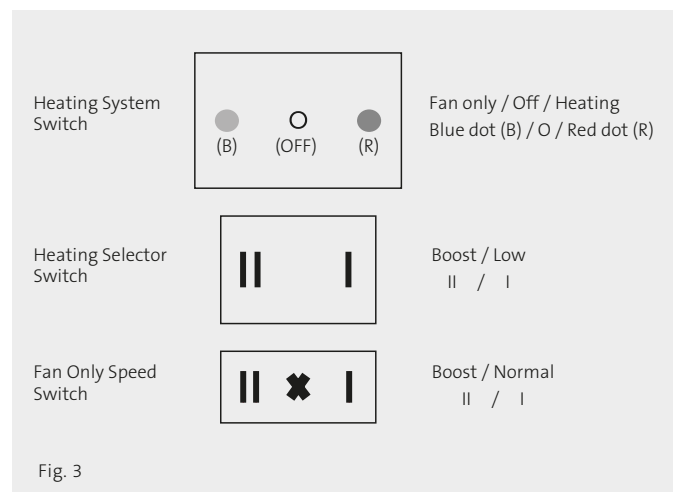

Fig. 3
<p>COMFORT MODE Provides room temperature control for when the room is occupied (see Fig. 3). Heating mode – Electric To enter this mode:</p> <ul style="list-style-type: none"> • Set the fan only/off/heating switch to heating (red dot) • Set the output switch to position I • Select the fan speed switch to position I <p>The unit will now run on low speed. To operate the 500E ECO at 2kW:</p> <ul style="list-style-type: none"> • Set the output switch to position II <p>The unit will now run on high speed.</p>	<p>The display will show the ambient temperature. Press OK, set temperature will begin to blink. Use ◀ or ▶ to adjust the required room temperature. Press OK to confirm. The ambient room temperature will then display.</p> <p>Default setting +21°C Max temp setting +30°C Min temp setting +5.5°C</p> <p>Note: The thermostat has a LED indicator that will change colour depending on the following: ≤21.0°C = Green 21.5°C - 24.0°C = Orange ≥24.5°C = Red</p> <p>NOTE: To see the set temperature simply press ↻.</p>
- Koble OPTIMO 500E ECO-enheten til strømnettet, slå den på og test den (se fig. 3).